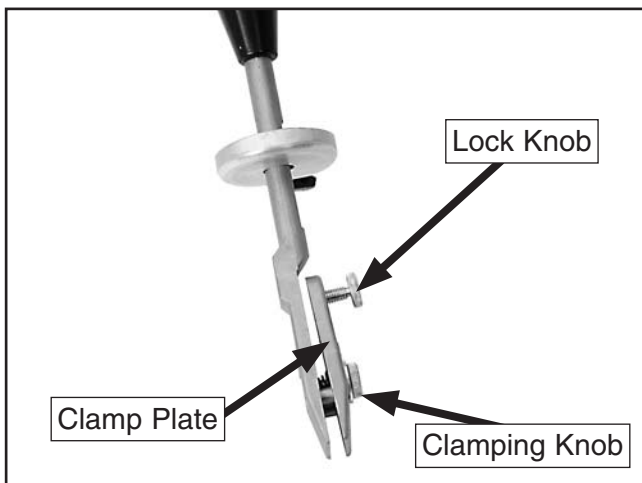

Figure 6. Knob identification.
3. Loosen the clamping knob enough to allow the knife to slide in and loosen the lock knob far enough so that it does not extend through the clamp plate (**Figure 6**).